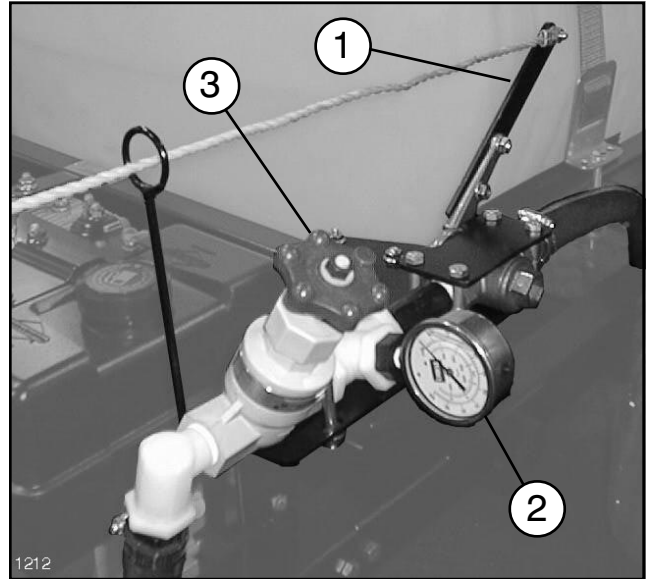

FIG. 6
3. Open Pressure Adjust Valve completely. See Fig. 6.
5. Assure that the Ratchet Valve is closed. See Fig. 6.